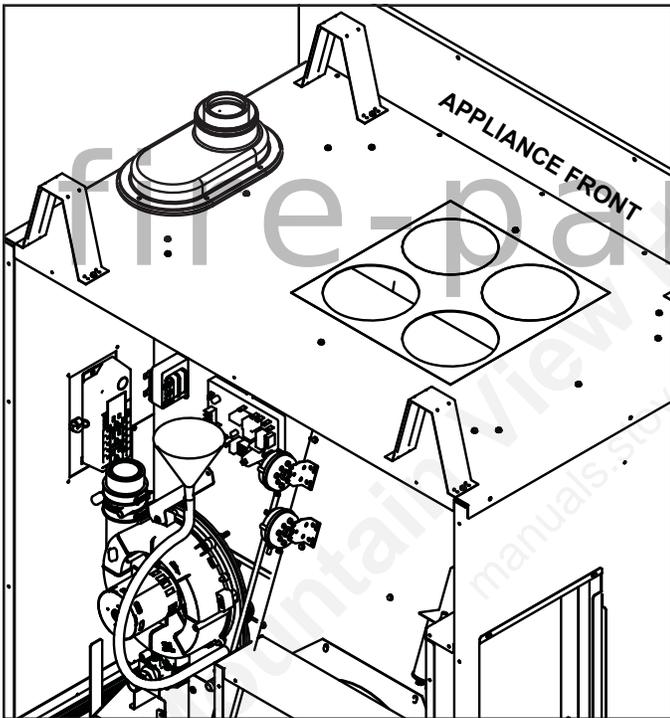

Figure 11.3. Upper Inducer Housing Tube Connected to Field-Supplied Funnel
5. Insert 3/8 inch (ID) field-supplied funnel into tube. See Figure 11.3.